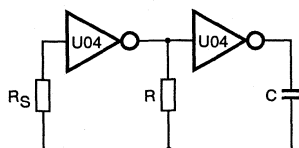

Fig.13 LVU04 used as an astable multivibrator.
- Astable multivibrator (see Fig.13)
Note to Fig.13